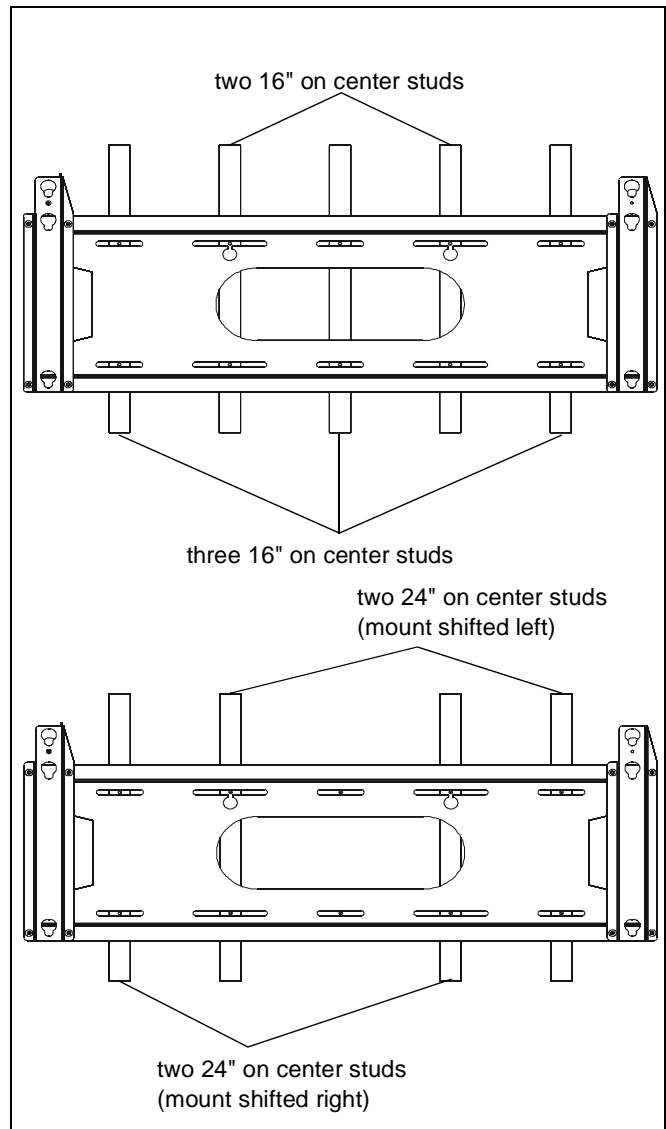

Figure 3
1. Determine mounting location. Mount can be installed on 16" on center or 24" on center wood studs. (See Figure 3)